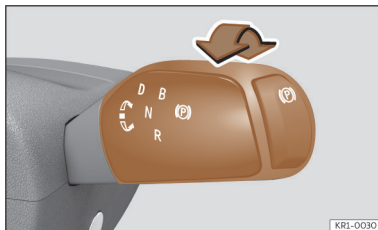

Fig. 109 Gear selector with the electronic parking brake button.
The gear selector has a button (P) for the electronic parking brake. To change from neutral **N** to another position, switch on the ignition, depress the brake pedal and turn the selector in the desired direction >>> **Fig. 109** (arrow):
Change between **D** and **B** by turning the gear selector forwards one position from **D/B** >>> **Fig. 109**. The selector always returns to the initial position. Turning it forwards again changes back to **D**.